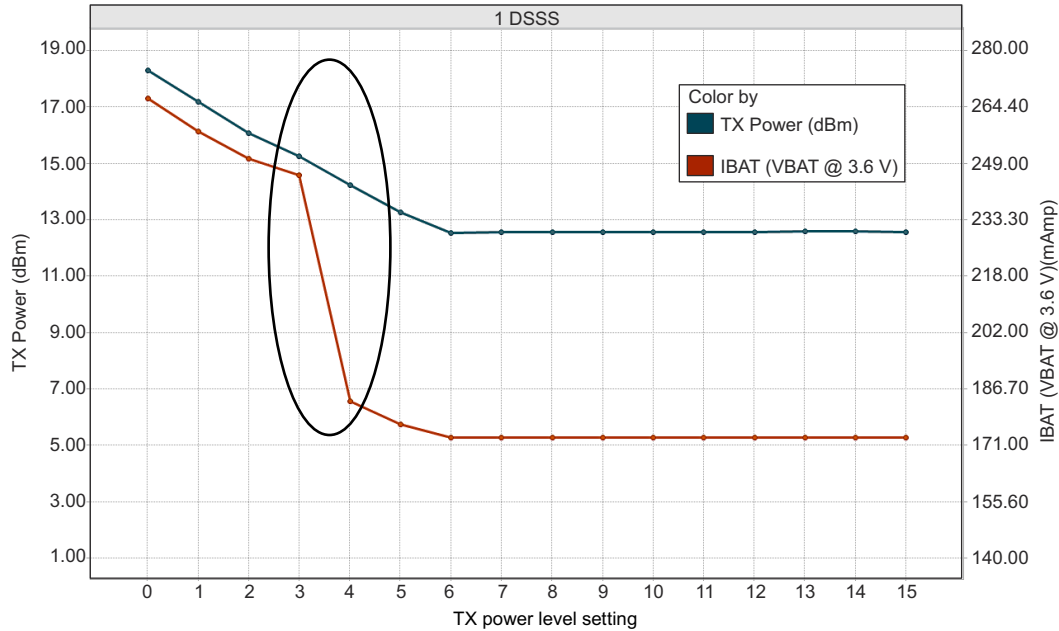
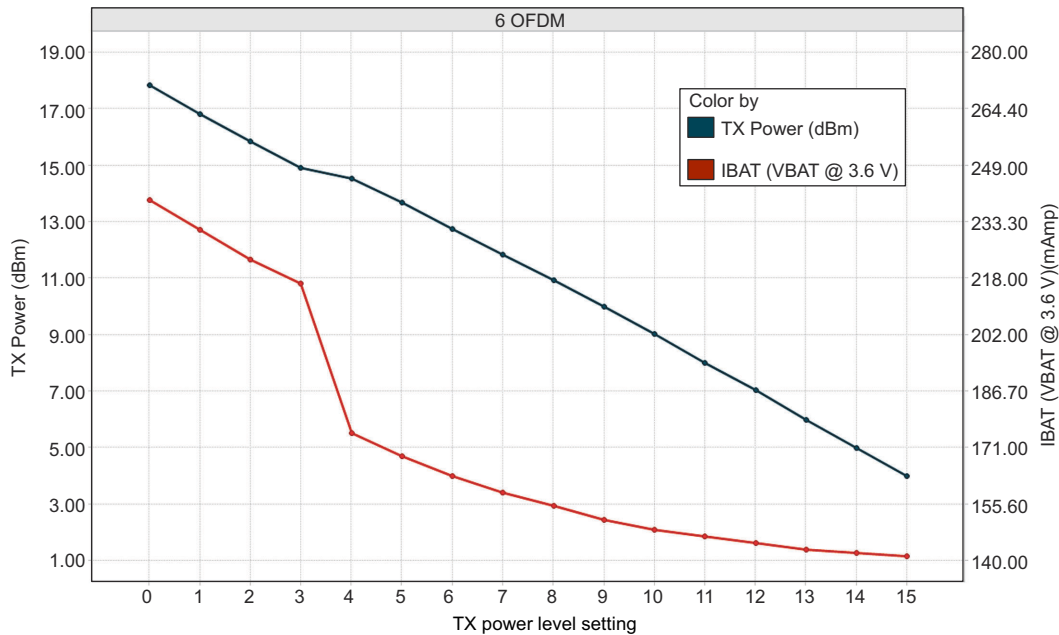
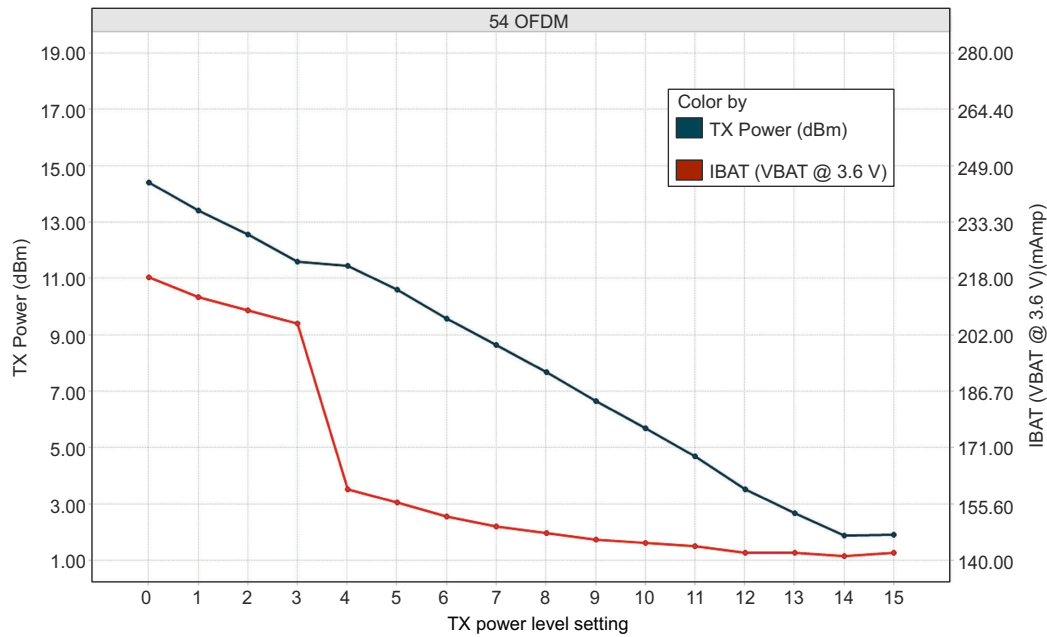

图 7-1. TX Power and IBAT vs TX Power Level Settings (1 DSSS)
图 7-2. TX Power and IBAT vs TX Power Level Settings (6 OFDM)
图 7-3. TX Power and IBAT vs TX Power Level Settings (54 OFDM)
- (1) TX power level = 0 implies maximum power (see 图 7-1, 图 7-2, and 图 7-3). TX power level = 4 implies output power backed off approximately 4 dB.
- (2) The CC3235x system is a constant power-source system. The active current numbers scale based on the V_{BAT} voltage supplied.
- (3) Typical numbers assume a VSWR of 1.5:1.
- (4) DTIM = 1
- (5) LPDS current does not include the external serial flash. The LPDS number of reported is with retention of 256KB of MCU SRAM. The CC3235x device can be configured to retain 0KB, 64KB, 128KB, 192KB, or 256KB of SRAM in LPDS. Each 64-KB block of MCU retained SRAM increases LPDS current by 4 μA .
- (6) The complete calibration can take up to 17 mJ of energy from the battery over a period of 24 ms. Calibration is performed sparingly, typically when coming out of HIBERNATE and only if temperature has changed by more than 20°C. The calibration event can be controlled by a configuration file in the serial flash.
图 7-1, 图 7-2, and 图 7-3 show TX power and IBAT versus TX power level settings for the CC3235S device at modulations of 1 DSSS, 6 OFDM, and 54 OFDM, respectively. For the CC3235SF device, the IBAT current has
In 图 7-1, the area enclosed in the circle represents a significant reduction in current during transition from TX power level 3 to level 4. In the case of lower range requirements (14-dBm output power), TI recommends using TX power level 4 to reduce the current.